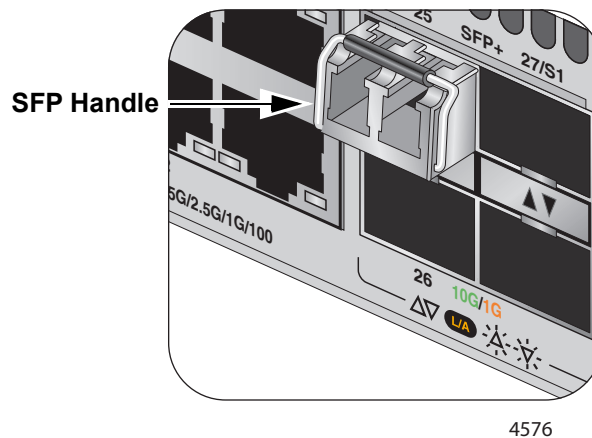

Figure 55. Positioning the SFP or SFP+ Handle in the Upright Position
5. Verify the position of the handle on the transceiver. If the transceiver is in a top port, the handle must be in the upright position, as shown in Figure 55. If the transceiver is in a bottom port, the handle must be in the down position.